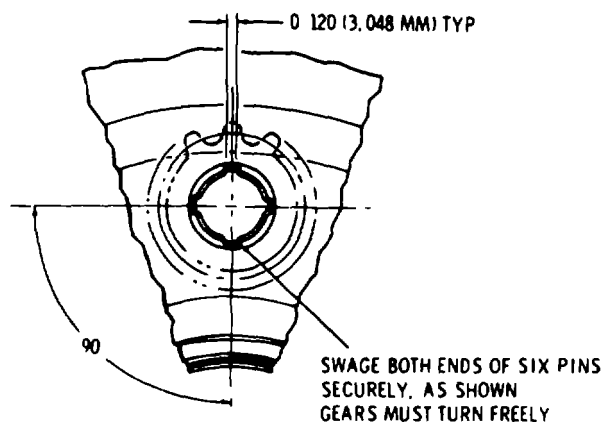

Fig. 6-68. Typical swaging pattern on pinion pin
(9) Position the carrier assembly, rear end upward (except the center carrier) on the press fixture. Use the proper support block to level the carrier while the lower swaging tool is supporting the lower end of one pinion pin.
(10) Apply sufficient pressure to the press fixture ram to firmly swage the ends of the pinion pins against the metal of the carrier. Figure 6-68 illustrates a typical swage pattern.